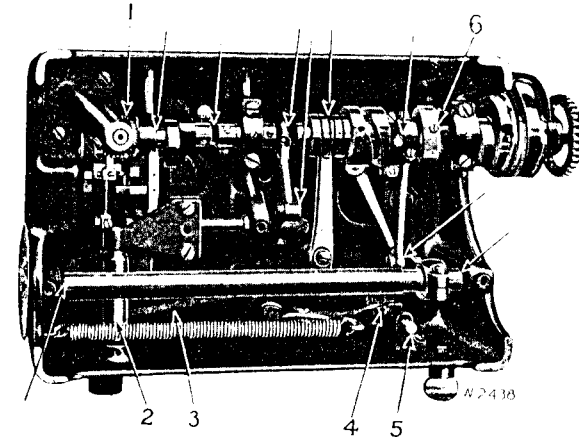
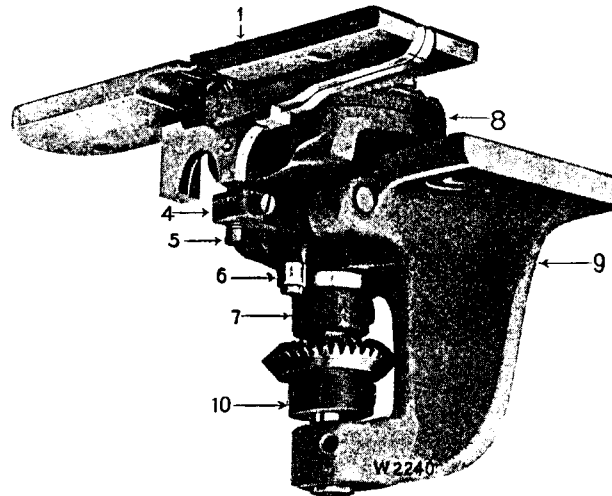

FIG. 13. OILING POINTS IN THE BASE OF THE MACHINE
FIG. 15. ADJUSTMENTS ON THE MACHINE
To cause the tension discs to open wider, tip the machine back, as shown in Fig. 13, page 11, loosen the pinch collar (4, Fig. 13, page 11) beneath the tension release lever on the starting rod (5, Fig. 13, page 11) and move the collar downward. To cause the discs to open less move the collar upward. When the tension discs have been adjusted to open the desired distance, tighten the pinch collar.
Tip the machine back as shown in Fig. 13, page 11. To increase the length of stitch, loosen the feed driving cam set screw (6, Fig. 13, page 11), and move the feed cam downward. To shorten the stitch move the feed cam upward. When the desired length of stitch has been obtained tighten the feed driving cam set screw.
Remove the screw with its spring from each side of the hook bracket (8, see Fig. 15, page 16) and remove the hook.
If the hook is not in correct time as noted above, see that the needle bar is correctly positioned, loosen the set screws in gear (1, Fig. 13, page 11), then turn the balance wheel in the running direction until the needle moves as far forward as it can come, the farther mark showing at the near side of the frame; continue turning until the near mark is on line with the frame. Now, turn the hook by hand until its point passes the needle about $\frac{1}{4}$ inch, then carefully and slowly push the hook backward until the point of the hook is at the centre of the needle, just back of its eye, as mentioned above, and tighten the screws in gear (1), being careful that neither bar nor hook has accidentally moved since positioned as directed, as there must be no lost motion between the heel of the hook and the hook driver, when the machine is correctly timed.
To adjust the needle support loosen the adjusting screw set screw and turn the adjusting screw (5, Fig. 15, page 16) in the bell crank (4, Fig. 15, page 16), until the support just touches the under side of the needle's tapered point as its tip is within $\frac{1}{32}$ inch from the extreme upper tapered surface of the support. If necessary time the cam (7, Fig. 15, page 16), on the hook driver shaft, in its relation to roller (6, Fig. 15, page 16), so that the upper
Should the needle not enter guard (2, Fig. 15) properly on either vibration, the needle bar frame (2, Fig. 13, page 11) can be adjusted to vibrate farther to the left or right by lengthening or shortening the pitman (3, Fig. 13, page 11).